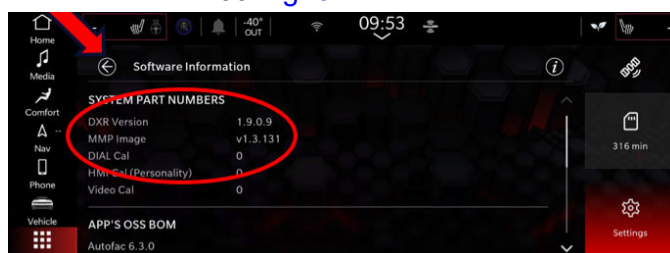

Fig. 6
- 9. Check if the software version is above 1.4.160 Fig. 6.